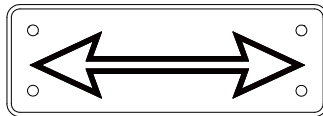

Figure 21 - Sense of rotation plate (Bidirectional)
- Sense of rotation nameplate - located over fan cover (see figure 21)